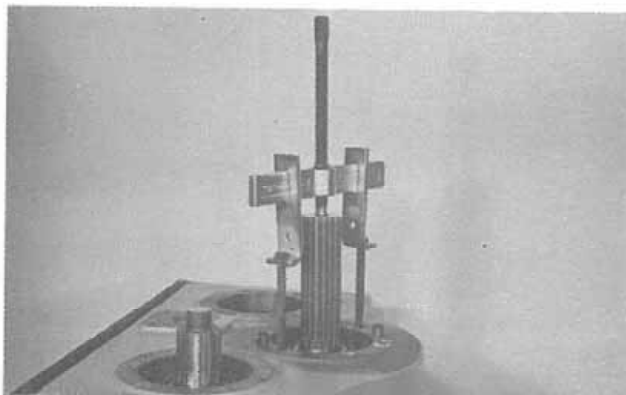

Figure 9:
8. The center shaft may be pressed out from either direction using a press. However, exercise caution to prevent damage to splines, if pressing on the protruding end of the center shaft (Fig. 9). After the shaft has been pressed free of its bearing, it may be free to fall from the housing. Carefully remove the gears and spacer.